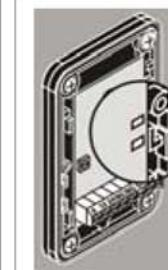

Fig. 11 / Bild. 11
Align the transmitter and the receiver so that the beam is established and the red led (LR) goes off (Fig. 8 and Fig. 11).
- The green led is ON when the receiver is powered (Fig. 11);
- The red led is ON when the beam is not established (Fig. 11).